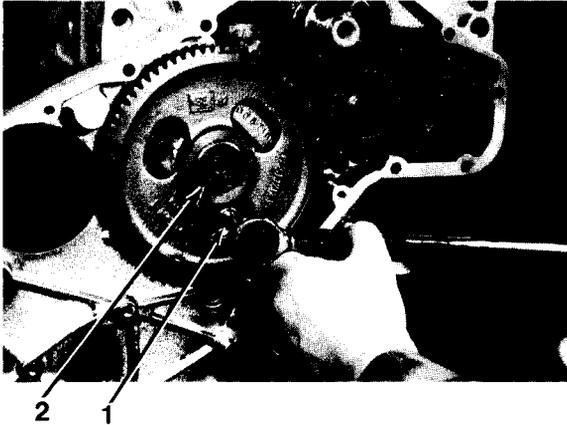

Figure 6-15
12. Push camshaft (2) into cylinder block and install two capscrews (1, Figure 6-15). Using a 13 mm socket, torque capscrews (1) to 18 lb-ft (24 N•m).